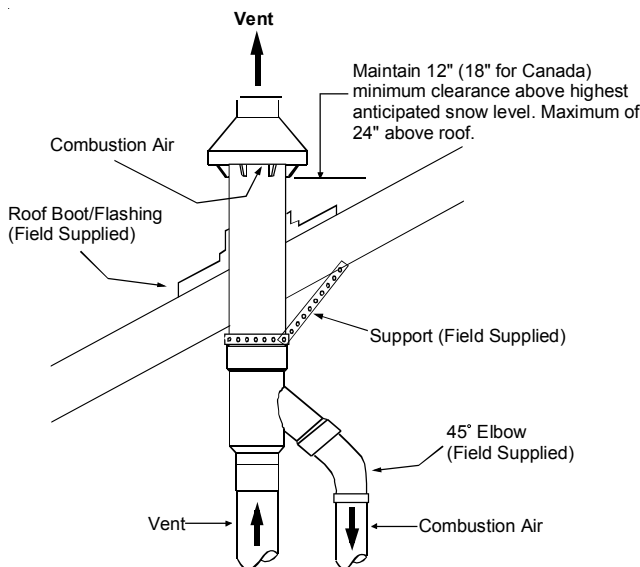
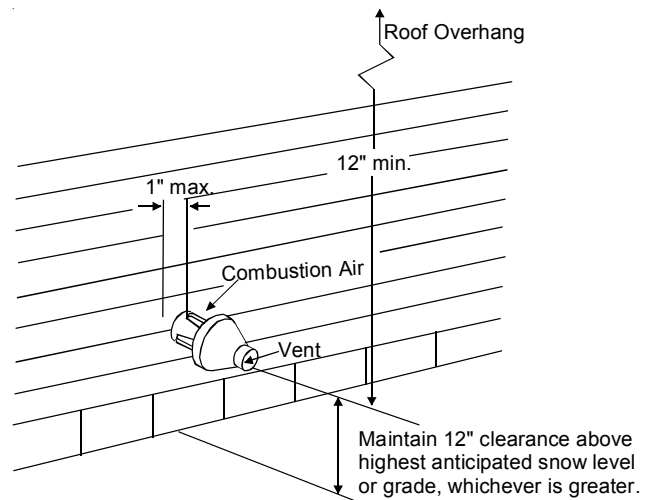

FIGURE 3
FIGURE 6
2. Determine the best location for the termination kit. See Figure 3 for vertical termination or Figure 6 and Figure 7 for horizontal termination. Roof termination is preferred since it is less susceptible to damage, has reduced intake contaminants and less visible vent vapors. For side termination, consideration should be given to:
7. Secure the assembly to the structure as shown in Figure 3 or Figure 7 using field supplied metal strapping or equivalent material.
- Ensure the termination height is above the roof surface or anticipated snow level as shown in Figure 3 for vertical termination.
- Ensure the termination location clearance dimensions are as shown in Figure 6 and Figure 7 for horizontal termination.
9. Cement the furnace combustion air and vent pipes to the concentric vent termination assembly. See Figure 3 or Figure 7 for proper pipe attachment.